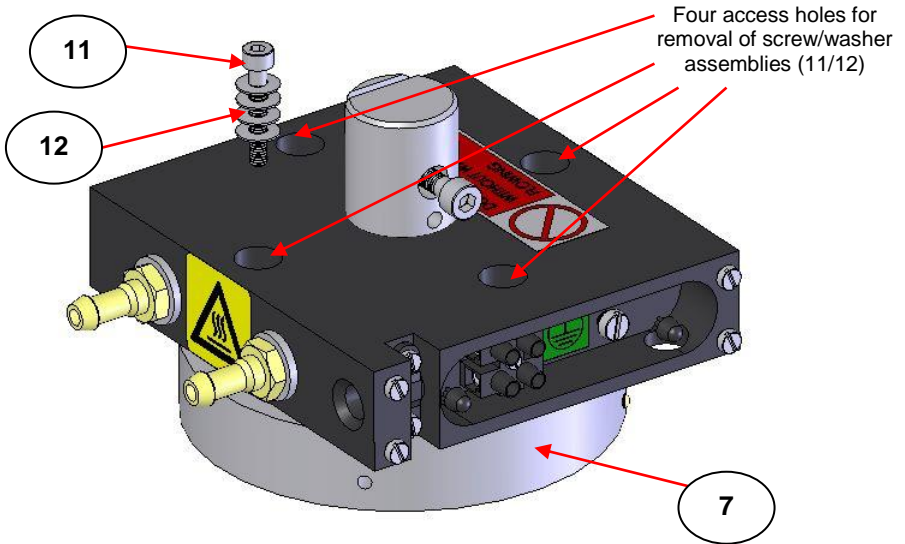

**Fig 2. Cover (4) Removed from Top Platen Assembly to Show Terminal Block (5)**
With removal of the cover (4) an internal terminal block (5) is now exposed. (See Fig 2.) Release the two screws in the terminal block that secure and connect to the heating element leads. Remove the leads from the terminal block and withdraw the leads through their access hole (6) in the body.
**Note:** *When working on the bottom platen assembly you need to be careful of the thermocouple assembly when removing the heating element leads from the connecting terminal block (5). The thermocouple can be withdrawn from the bottom heated platen surface (7) for easier working if desired.*